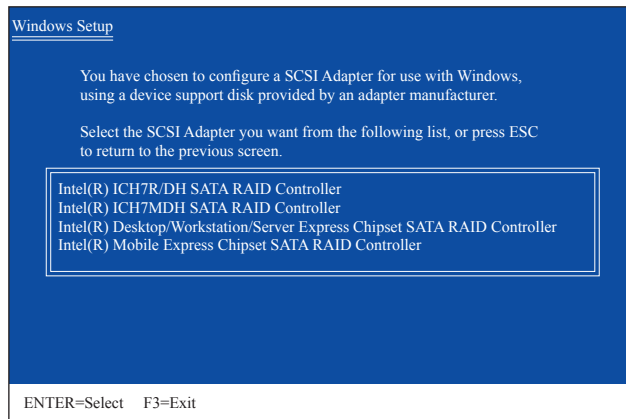

Figure 3
Insert the floppy disk containing the SATA RAID/AHCI driver and press <Enter>. Then a controller menu similar to that in Figure 3 will appear. Select **Intel(R) Desktop/Workstation/Server Express Chipset SATA RAID Controller** and press <Enter>. For AHCI mode, use the up arrow key on the keyboard to scroll to the **Intel(R) Desktop/Workstation/Server Express Chipset SATA AHCI Controller** item and press <Enter>.